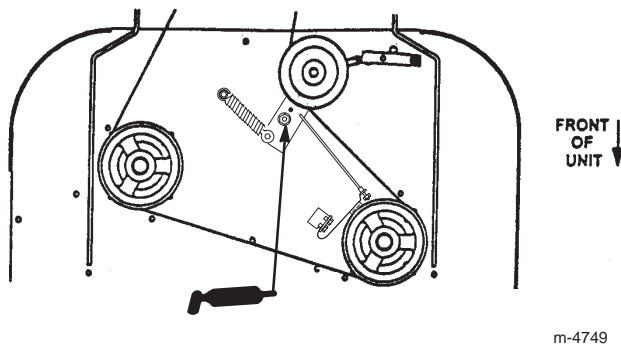

Figure 35
3. Lubricate the blade belt idler arm pivot (Fig. 35) after every 50 operating hours.